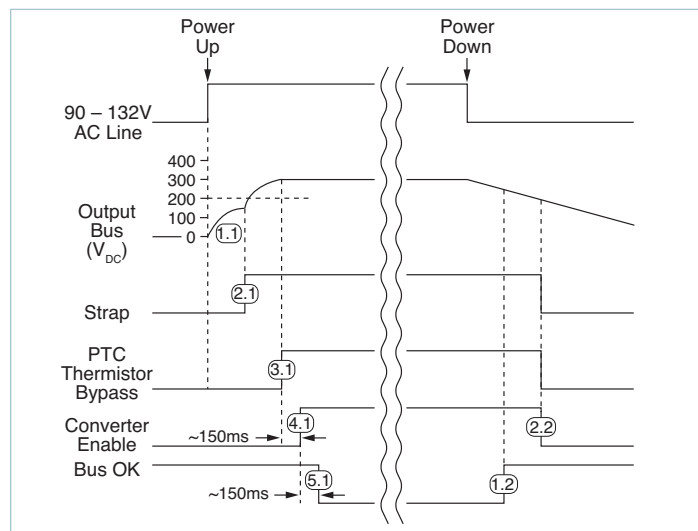

Figure 8 — Timing diagram: power up/down sequence
### Power-Up Sequence (See Figure 8):
**Power-Down Sequence:** (See Figure 8). When input power is turned off or fails, the following sequence occurs as the bus voltage decays: